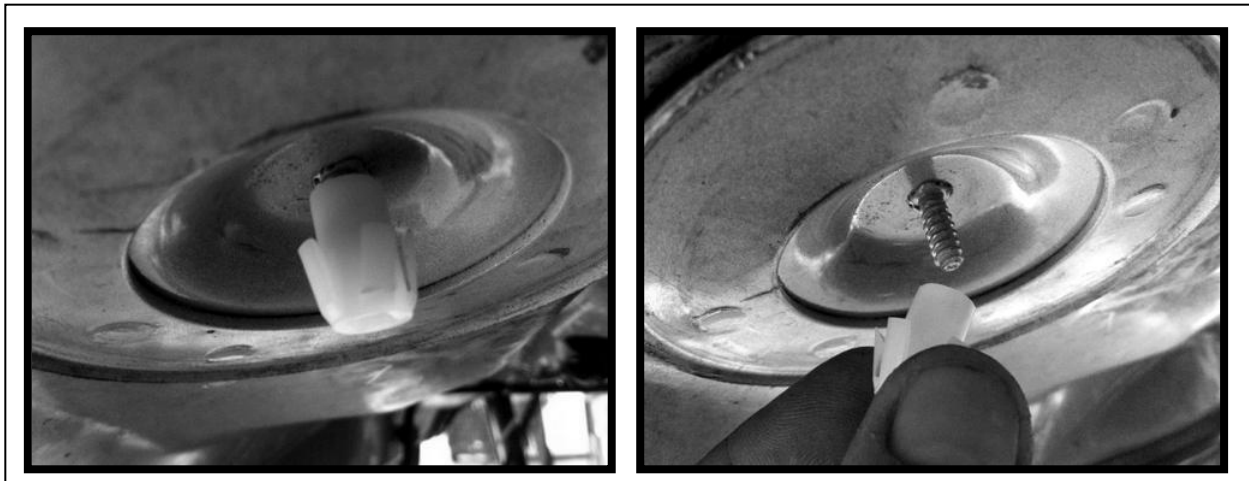

FIGURE 10-5
8.0 REPLACE RETENTION CLIP WITH NEW CLIP PROVIDED ON THE UPPER MOUNT. (FIGURE 10-5)